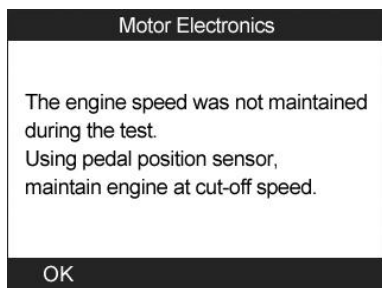

Figure 14.45
- If the engine is not running at cut-off speed, the tool will display a warning message. (Figure 14.45) Select **OK** to repeat the test.